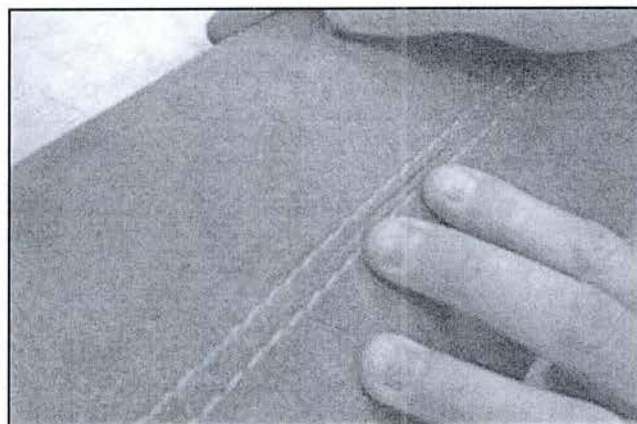

Figure 5
8. Carefully apply pressure with your fingers to close the space between the two edges of the alcantara (refer to Figure 5). Make sure that the alcantara is fully bonded to the trim panel.